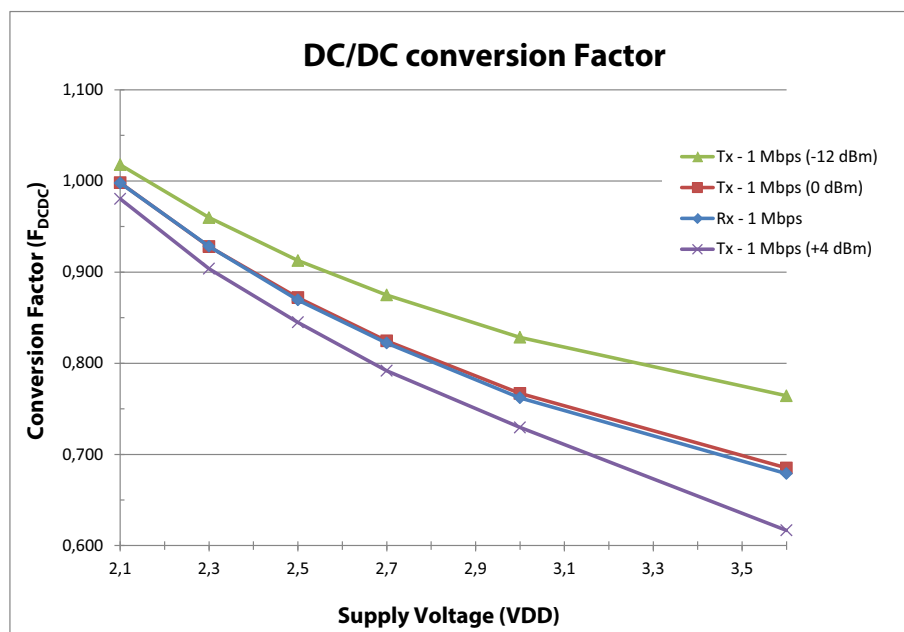

Figure 11 DC/DC conversion factor as function of VDD
4. F_{DCDC} will vary depending on VDD and internal radio current consumption (I_{DD}). Please refer to the *nRF51 Series Reference Manual*, v3.0 or later, for a method to calculate $I_{\text{DD,DCDC}}$. See **Figure 11** on page 51 for a DC/DC conversion factor chart.